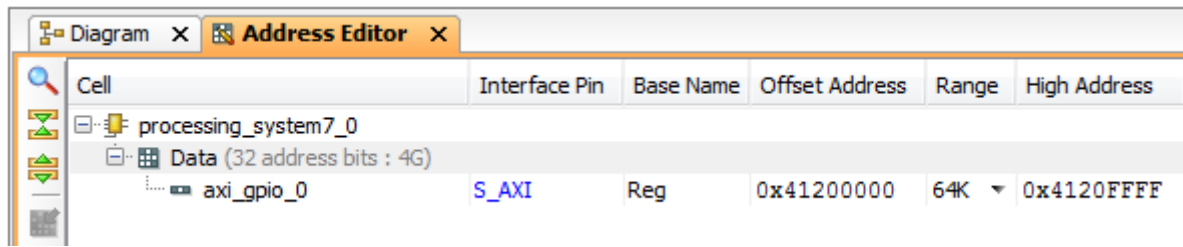

Figure 1.18: Address Editor Tab
- (j) Select the Address Editor tab from the top of the Workspace window, as shown in Figure 1.18, and expand the Data group.